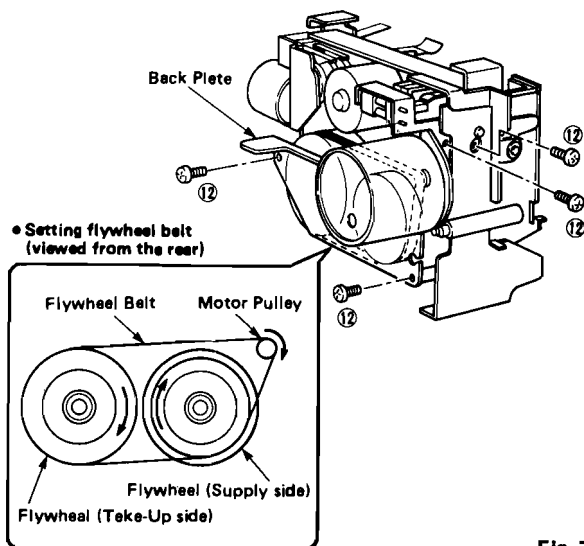

Fig. 7
- a. Remove 4 screws ( ⑫ ) in fig. 7, then remove the back plate.